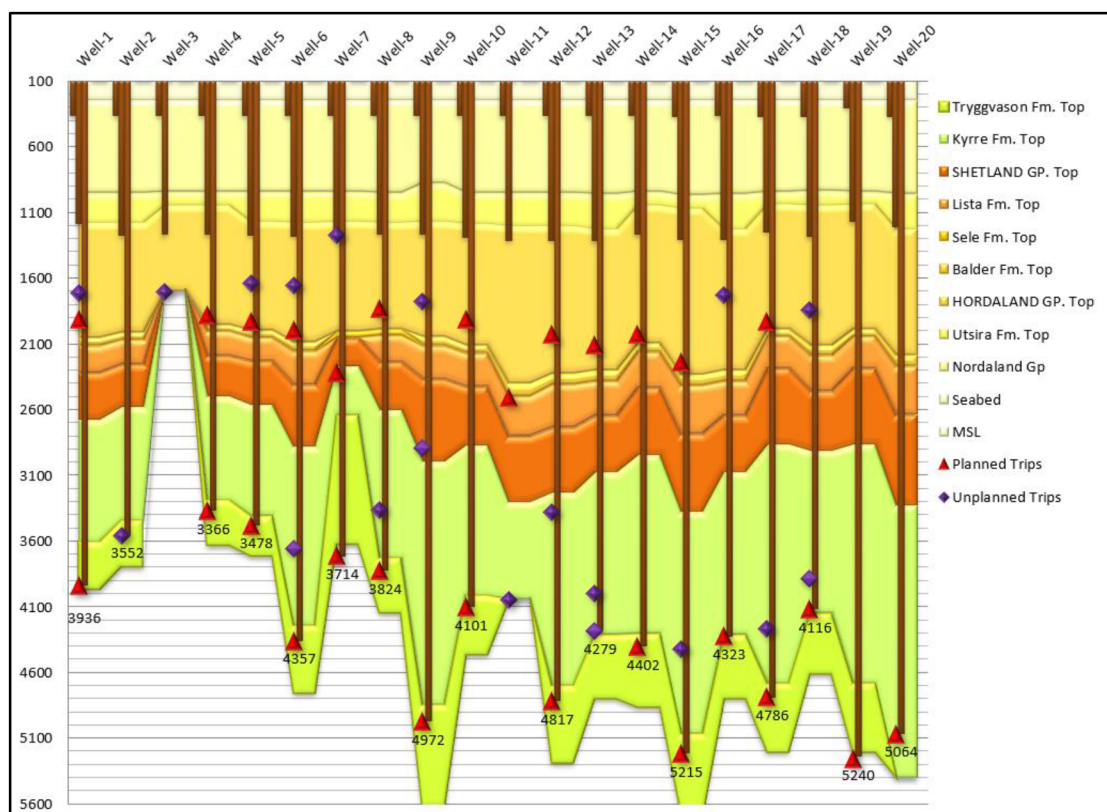

Figure 8—Run Summaries Plot for Offset Wells Study (Beeh, et al. 2025)
- Run summaries detailing the performance of individual operational phases as shown in Figure 8.